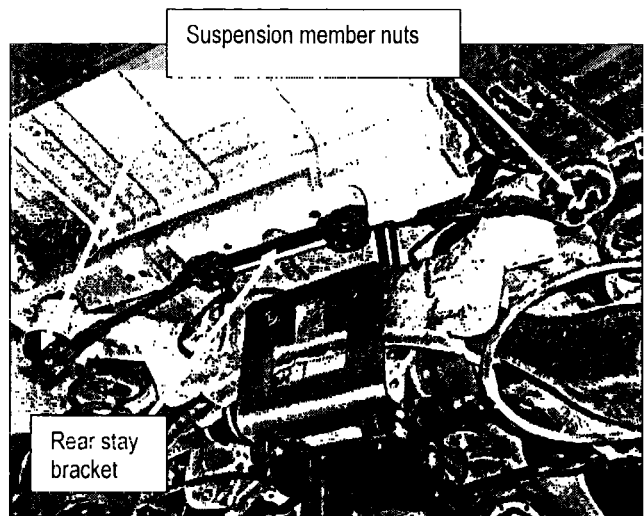

Figure 30
31. Remove the rear stay bracket and suspension member rear nuts (see Figure 30).